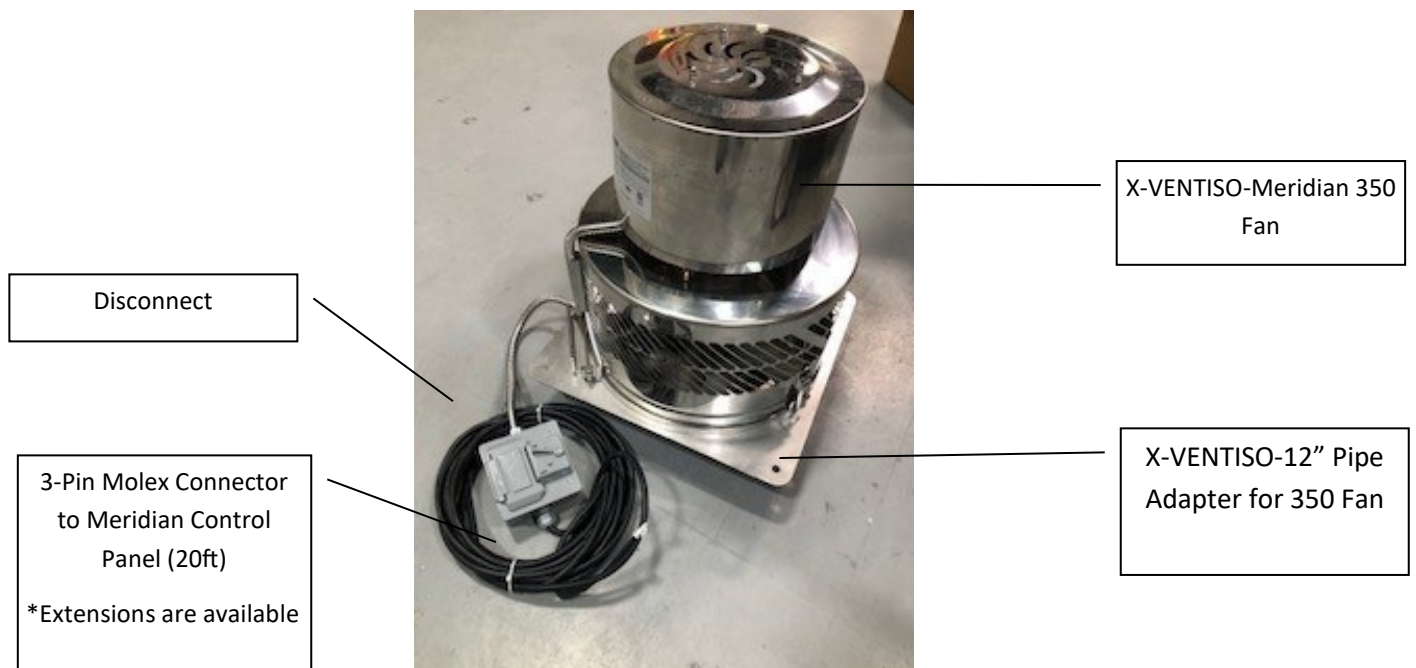

FIGURE 23
The X-VENTISO-Meridian-350 Fan (**Figure 23**) is a high temperature exhaust fan that maintains the necessary draft for the XCELUX series. It has been rated for all high temperature chimney, flue, and grease duct applications up to 2100 CFM, but has specific Molex connections for usage with the Meridian Control Panel. This fan is UL and ULC listed for all gas, liquid, or solid fuel burning fireplaces, ovens, cooking appliances, and domestic heating appliances, up to 1000°F continuous, 1400°F abnormal. The housing and impeller are constructed of 316L stainless steel, which helps prevent corrosion from the elements. The tool-less clamp and hinge provides easy access to the impeller for routine maintenance and cleaning.
The X-VENTISO-Meridian-350 fan uses the X-VENTISO-12" Pipe Adapter for 350 Fan (**Figure 23**) to mate the fan to 12" B-vent chimney. The adapter has a slip-fit collar that inserts into the B-vent pipe and a mounting flange that provides a stable surface for the fan. The adapter allows for the fan to be mounted to the exterior wall of the structure in horizontal termination installations.
- The location of the Meridian Control Panel is dependent upon the fireplace model and must be within the values shown in (Figure 23). The distances shown are as measured horizontally from the fireplace flue-outlet.
- Two 120 VAC / 15A outlets must be provided at the chosen location on a dedicated circuit; one for the Meridian Control Panel, the other for the Gas Valve Control Box . These outlets must be within the extent of the 72” power supply cables of the Meridian Control Panel and the Gas Valve Control assembly (Figure 23).